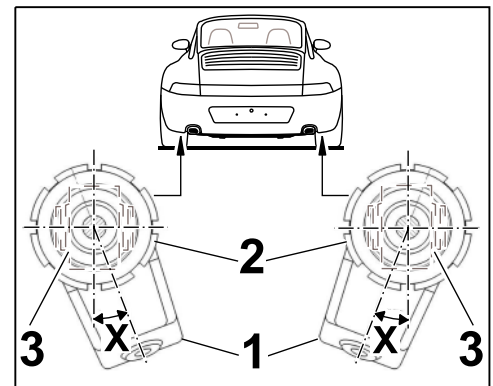

Figure 9
3.3 Prepare shock absorbers for installation (left/right side of vehicle ⇒ *Figure 9*).
3.3.2 Adjust dimension X = 21° as required (⇒ *Figure 9*).